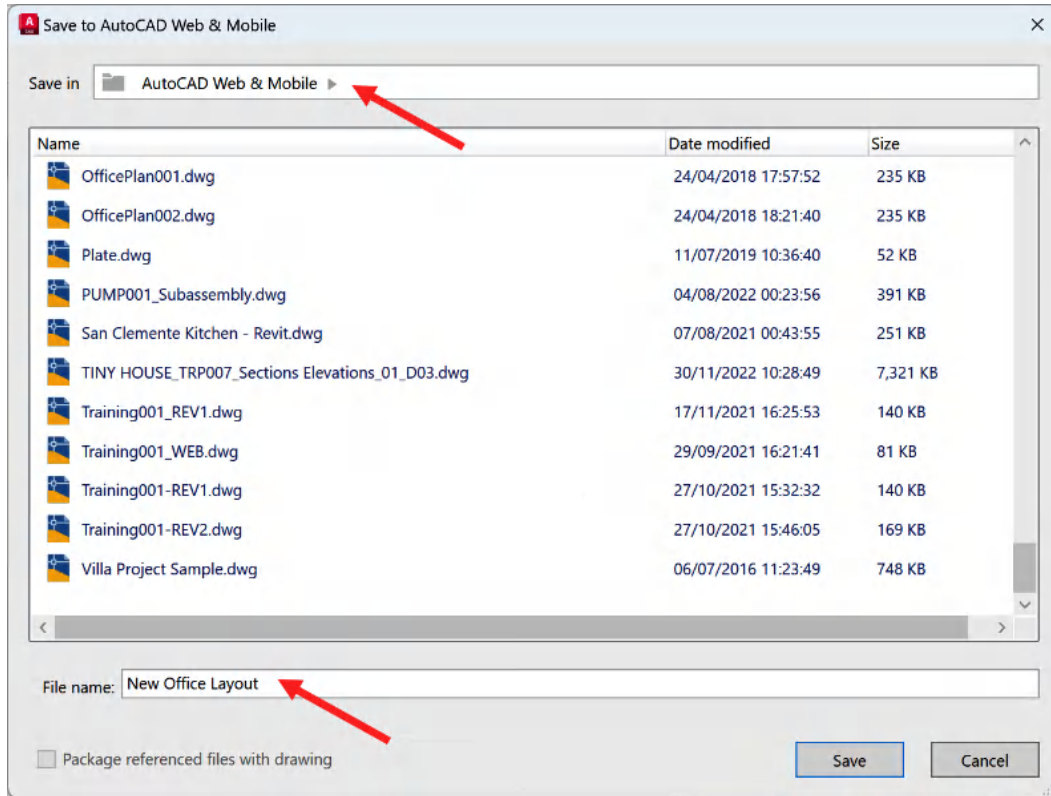

Figure 15.2: The Save To AutoCAD Web &amp; Mobile dialog box
1. After clicking on the icon (and installing the driver), the **Save To AutoCAD Web & Mobile** dialog box will appear, as shown in *Figure 15.2*. The file location is displayed at the top of the dialog box (**AutoCAD Web & Mobile**: arrowed in the figure), and the preferred filename is displayed at the bottom (arrowed in the figure).